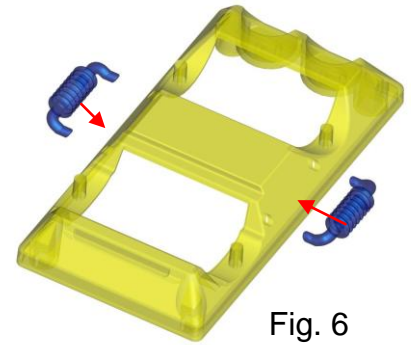

Fig. 6
4. Install the tube (9) to both sides of the body frame (2). (Fig. 6)